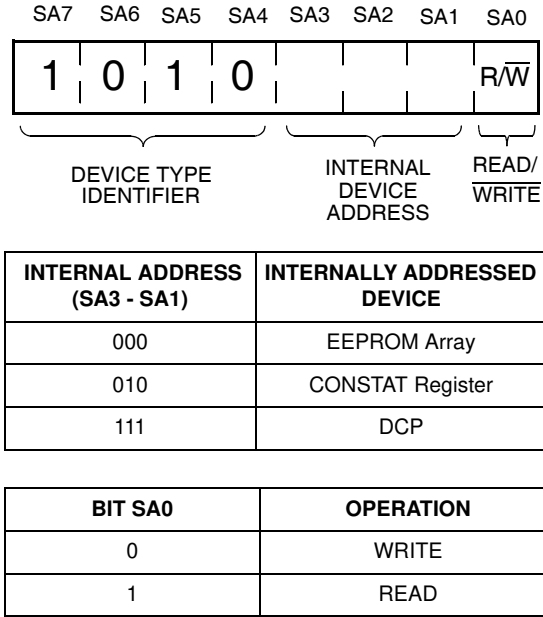

FIGURE 4. SLAVE ADDRESS FORMAT
Following a START condition, the master must output a Slave Address Byte (Refer to Figure 4). This byte consists of three parts:
- The Least Significant Bit of the Slave Address (SA0) Byte is the R/W bit. This bit defines the operation to be performed on the device being addressed (as defined in the bits SA3 - SA1). When the R/W bit is "1", then a READ operation is selected. A "0" selects a WRITE operation (Refer to Figure 4.)